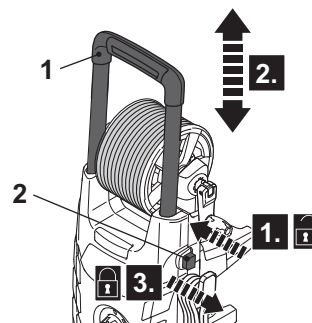

Fig. 19
- > Press the lock-off button (2) to unlock the transportation handle (1) (Fig. 19, step 1).
- > Move the transportation handle (1) to required position (high/low position) (step 2).